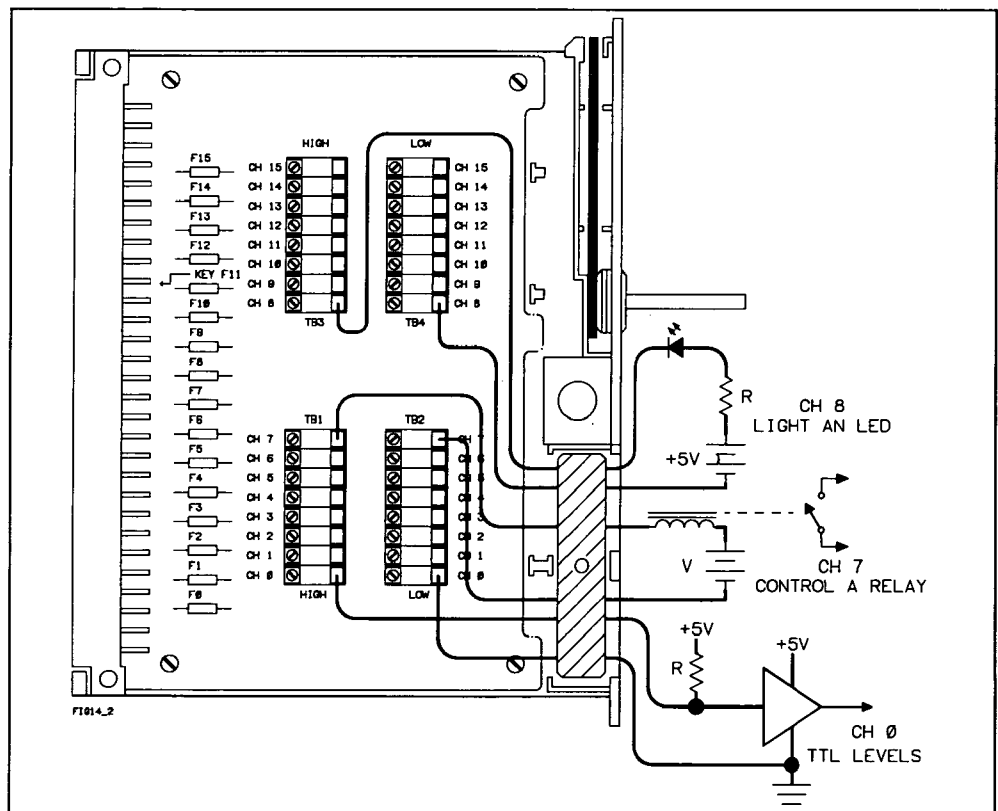

Figure 2-2. Typical Field Wiring Connections
*A channel wired with reverse polarity (+ to LOW and - to HIGH) will always appear to be closed (ON), with current ratings identical to a properly wired channel.*
Figure 2-2 shows three applications for the digital output and typical field wiring connections. Channel 8 is used to turn an LED on or off and an external source (+5V) and current-limiting resistor (R) are required.